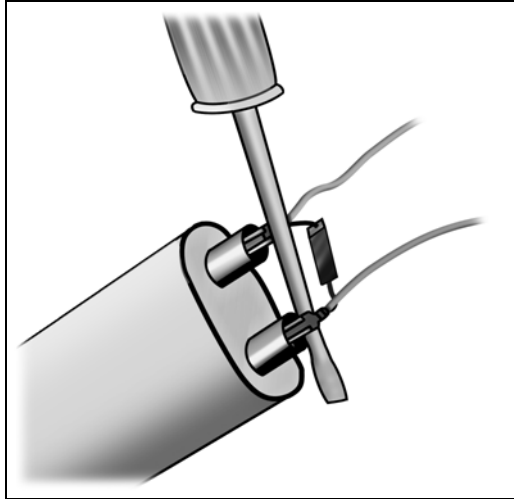

Figure A-1: Discharging the High-Voltage Capacitor
3. Using an insulated-handled screwdriver, touch the blade from one terminal on the capacitor to the other terminal on the capacitor, as shown in Figure A-1. **This may result in a rather startling “pop!”**